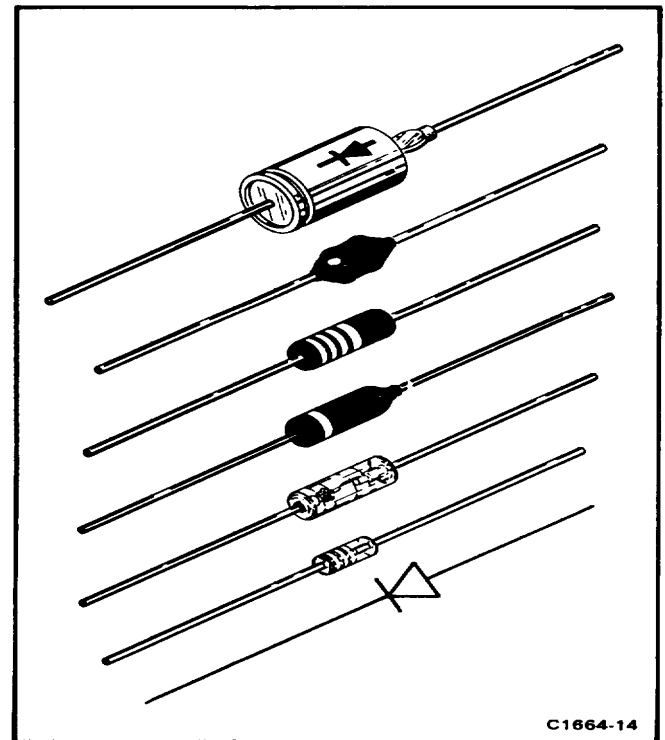

Figure 5-3. Diode Polarity markings.
**Diode Code.** The cathode of each glass-encased diode is indicated by a stripe, a series of stripes, or a dot. Some diodes have a diode symbol printed on one side. Fig. 5-3 illustrates diodes types and polarity markings that are used in this instrument.